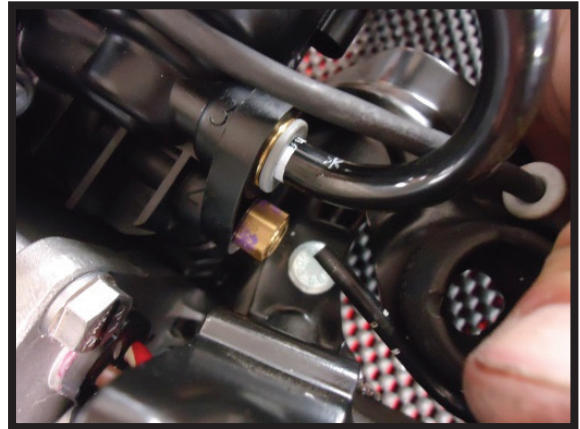

FIGURE 17
3. Remove the white shipping pin and install the air line from the valve block to the new compressor. (FIGURE 17)